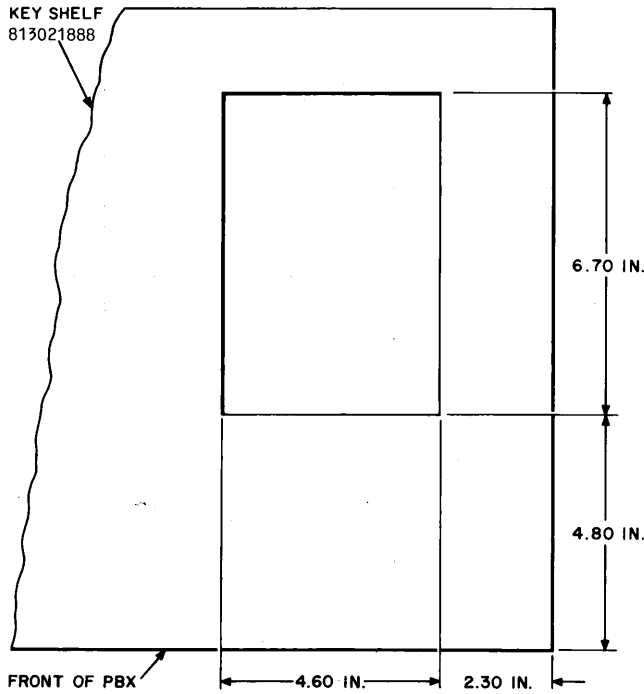

Fig. 15—Modification of Writing Shelf for Rotary Card Dialer
3.16 The necessary modifications to the existing writing shelf and bulletin holder in order to install the rotary card dialer (MD) are shown in Fig. 15 and 16. An 18-volt 60-Hz supply transformer (2012B) which plugs into a 110-volt ac convenience outlet is also required. Mount the rotary card holder with the hardware included. Connect the (K1) plug of the card dialer cable to the (K) socket and the (K) plug of the dial cable to the (K1) socket on the card dialer cable.